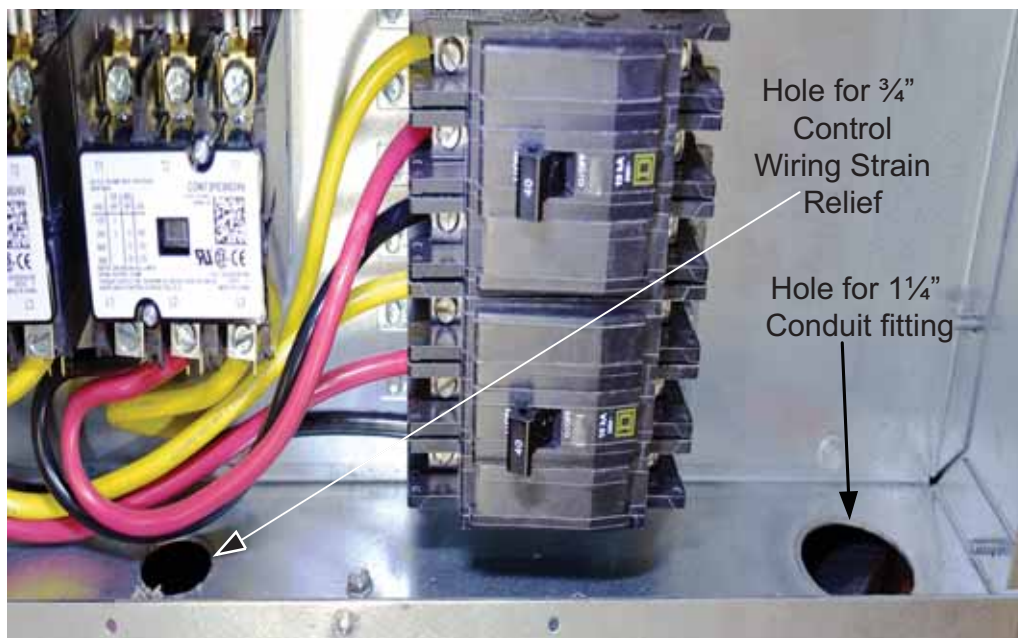

FIGURE 3 - HEATER WITH CONTROL COVER REMOVED
4. Install $\frac{3}{4}$ " strain relief fittings in the center holes of both heater cabinets (See Figure 3).